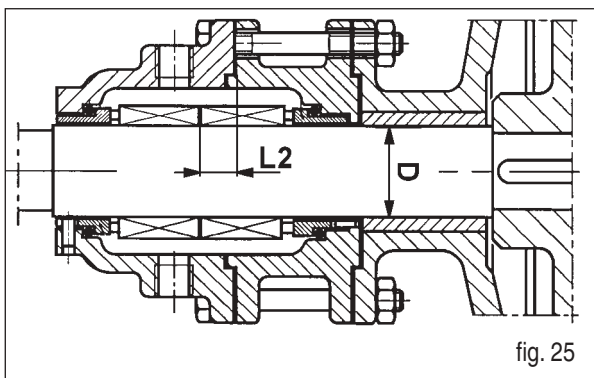

fig. 25
NB: The table shows the diameter D of the shaft and the distance L between the seal (66.1) and the seal box (77) when the rear cover (09) is not fixed in place but only resting on the rear of the rotor (fig.25).